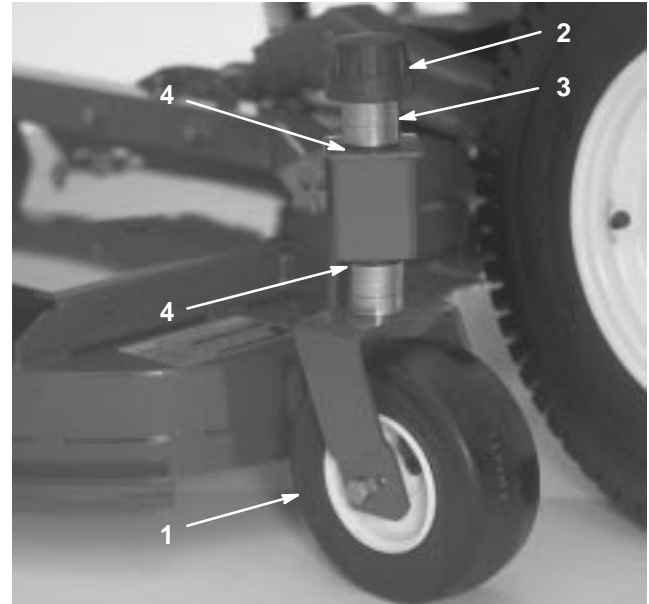

Figure 13
1. Remove the tensioning cap from the spindle shaft (Fig. 13).